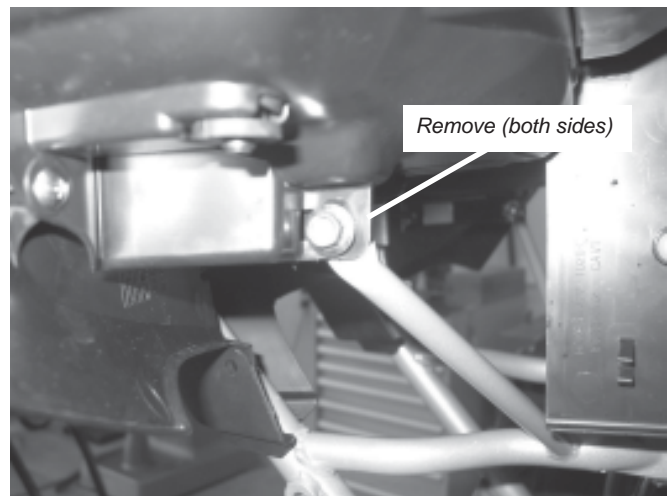

Figure 3 Front Bumper Bolts
3. Remove the two 6mm bolts that attach the front bumper to the plastic headlight assembly, figure 3. Save the fasteners as they will be used to reinstall the front bumper.